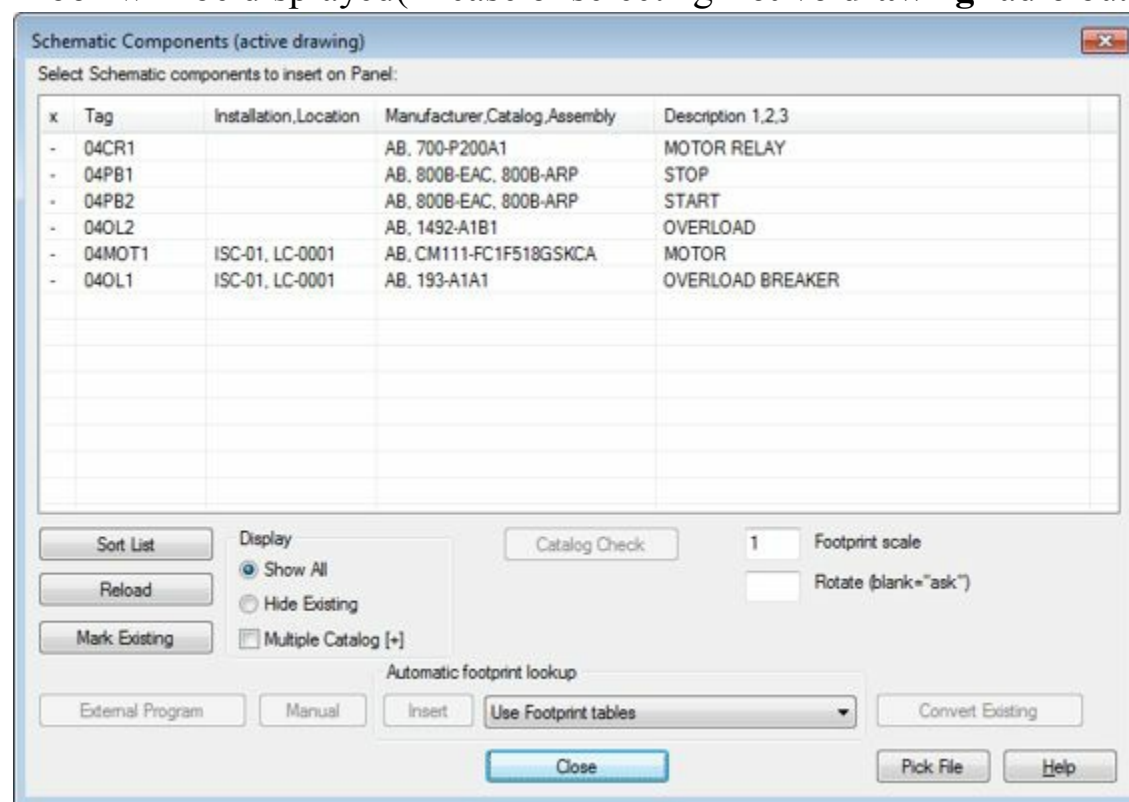

Figure-13. Schematic Components dialog box
- Click on the **OK** button from the dialog box. The **Schematic Components (active drawing)** dialog box will be displayed (in case of selecting **Active drawing** radio button); refer to Figure-13.